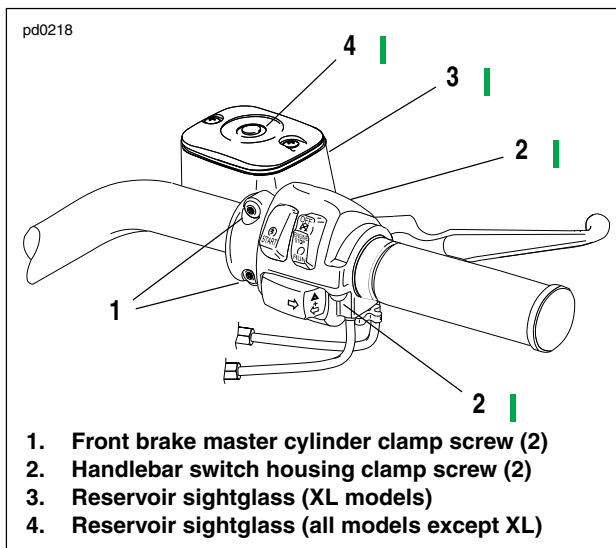

Figure 1-25. Right Hand Controls (Typical)
1. See Figure 1-25. Loosen, but do not remove, front brake master cylinder clamp screws (1) and handlebar switch housing clamp screws (2).
See Figure 1-25. View reservoir sightglass (3 or 4) and verify fluid presence. Sightglass should appear dark if fluid is present. If sightglass is not dark, add brake fluid. See Service Manual. Use only D.O.T. 5 SILICONE HYDRAULIC BRAKE FLUID (Part No. 99902-77: 12 oz., 99901-77: 1 gal.) for all Dyna, Softail, VRSC and Sportster models. Use only D.O.T. 4 HYDRAULIC BRAKE FLUID (Part No. 99953-99A) for all Touring models. Wash all residue of D.O.T. 4 brake fluid spills off vehicle with water.